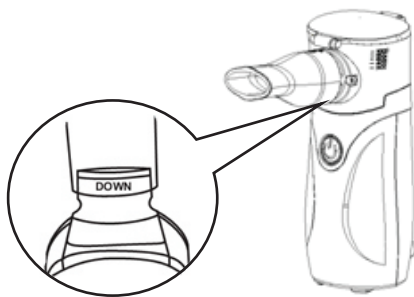

Fig. 9
- Connect mouthpiece to mesh outlet. (Refer to Fig. 9)